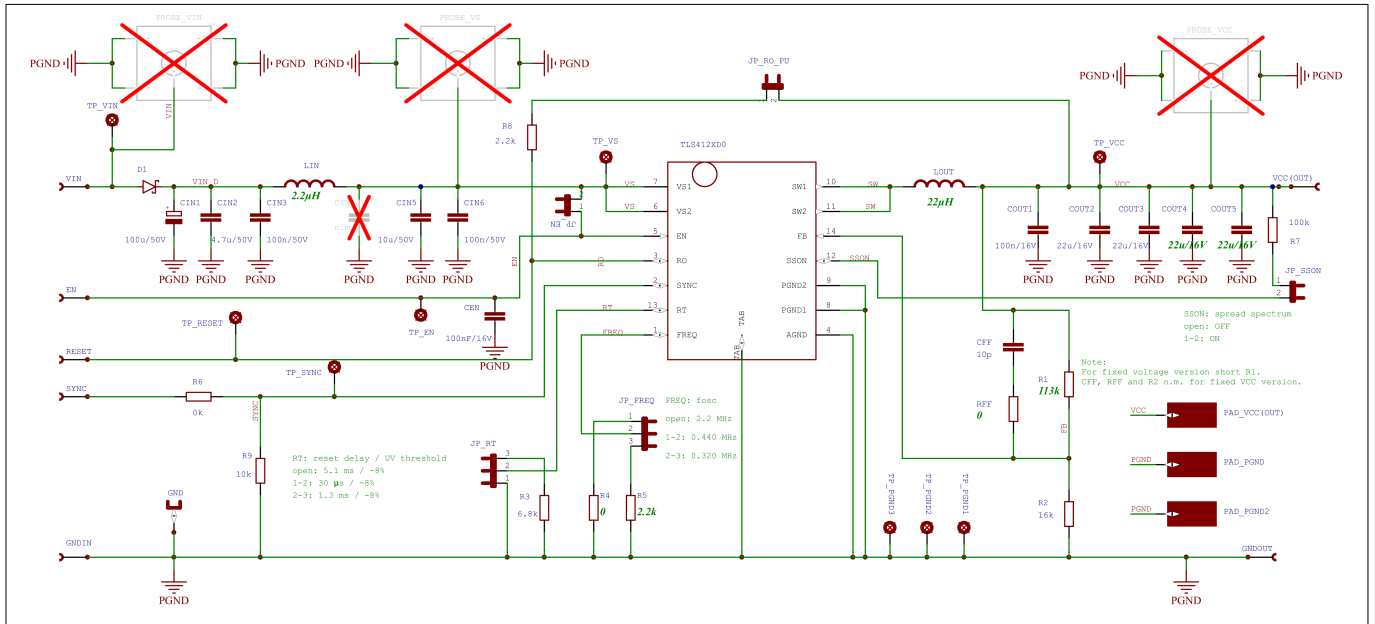

Figure 16 Schematic for adjustable variants in LF configuration
- adjustable variants TLS412xD0EPV in LF configuration, see **Figure 16**